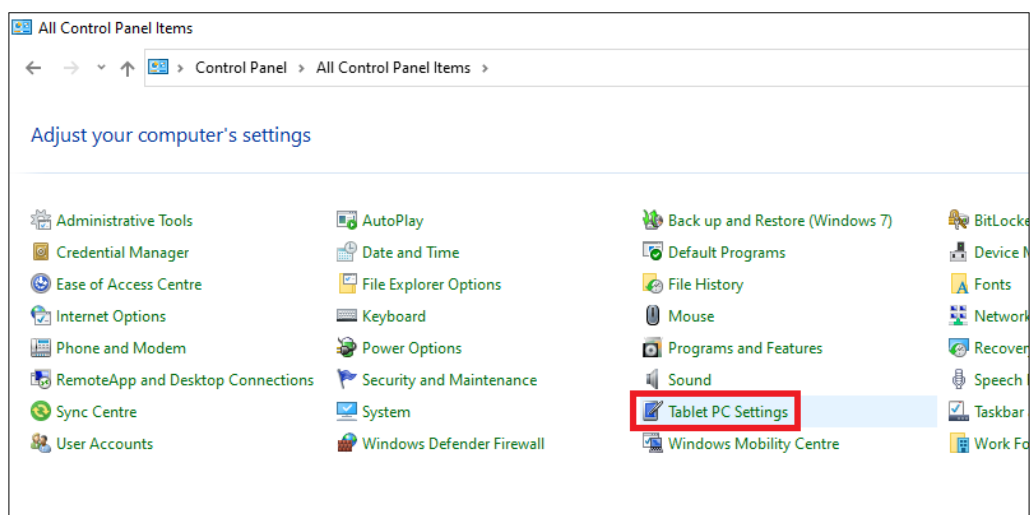

Figure 23: "Control Panel" dialogue – Tablet PC Settings.
- 3 Open "Tablet PC Settings" (see Fig. 23),